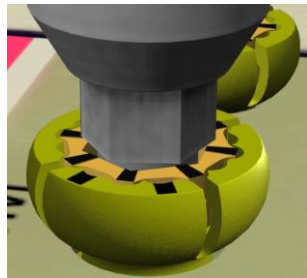

fig. 4
- Be sure that the inner hex portion of the Clocked Screw Driver is fully engaged into the Bone Screw (fig.4) and seated to a hard stop.